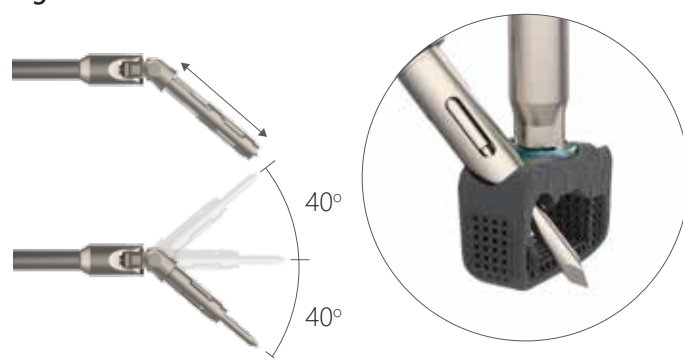

Figure 7b
- The Self - Guided Poly Angle Awl and Self - Guided Poly Angle Drill have spring - loaded sleeves which interface with the Screw hole pockets at a 40° angle, creating centered pilot holes (Figure 7b).